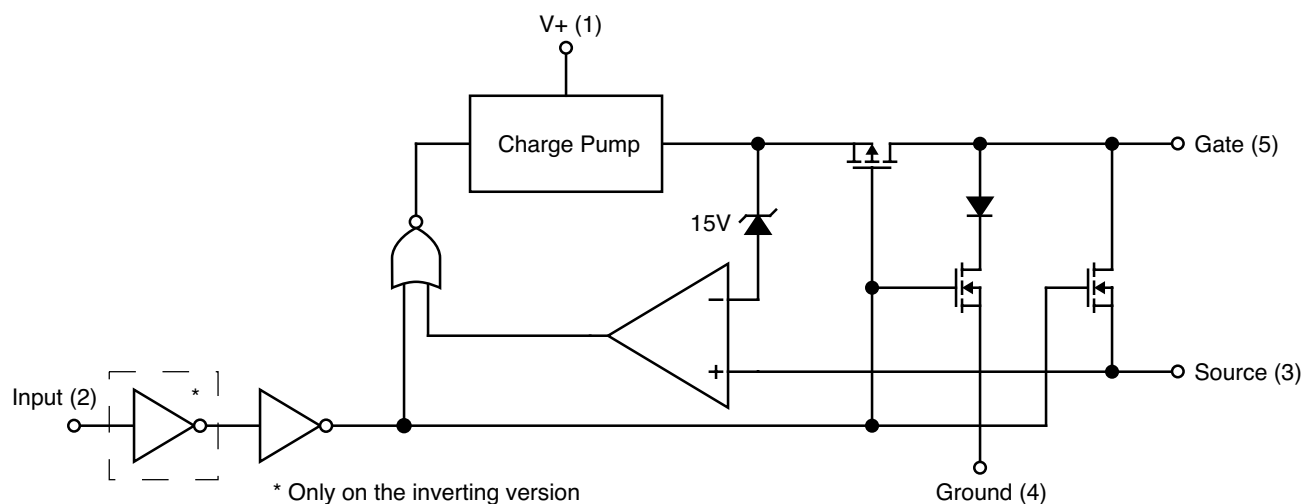

**Figure 1. 3V "Sleep-Mode" Switch
**High Side Driver** (Figure 1) The high side topology shown here is an implementation of a "sleep-mode" switch for a laptop or notebook computer which uses a logic level FET. A standard power FET can easily be substituted when supply voltages above 4V are required.